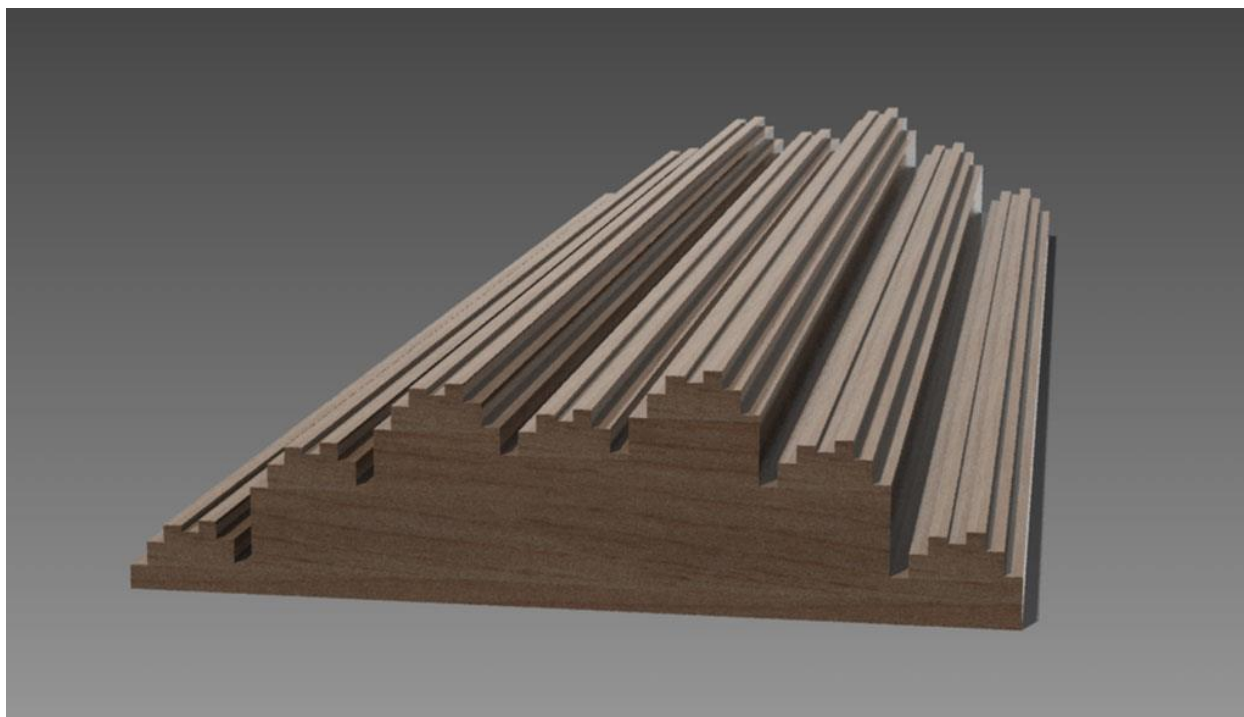
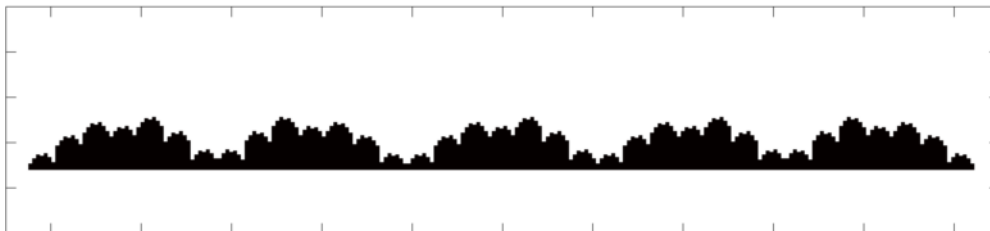

Figure 1 Single module of fractal sound diffuser B2-Frac.
Figure 3 Fractal sound diffuser B2-Frac (array of five modules, arranged with aperiodic modulation {1 0 1 1 0}).
- For optimal performance, arrange five full height modules in an array with aperiodic modulation {1 0 1 1 0}. The five numbers in the expression {1 0 1 1 0} represent an array of five diffuser modules. Each “1” represents a module placed with regular orientation (like the module in Figure 1). Each “0” is a module with mirrored orientation. See Figure 3 for a visual guide.